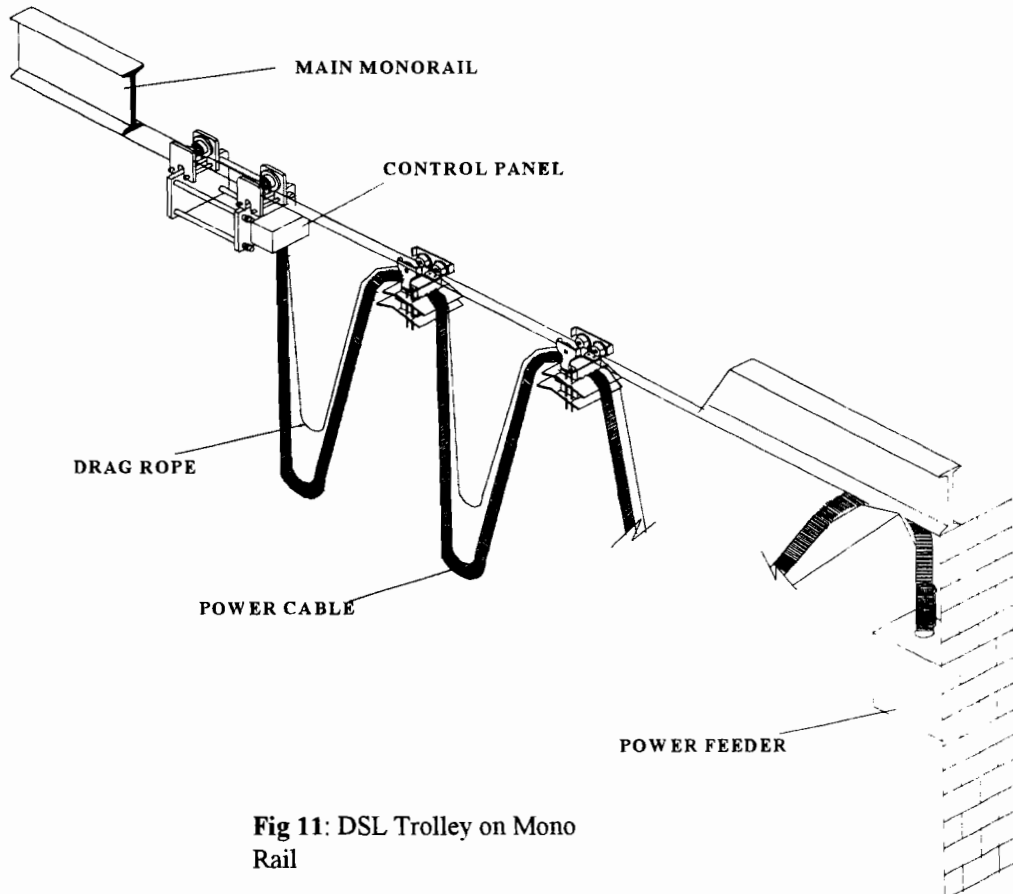

Fig 11: DSL Trolley on Mono Rail
3. In case there is no Auxiliary Mono rail for DSL arrangement power feeding system shall run through main mono rail as shown in Fig. 11.